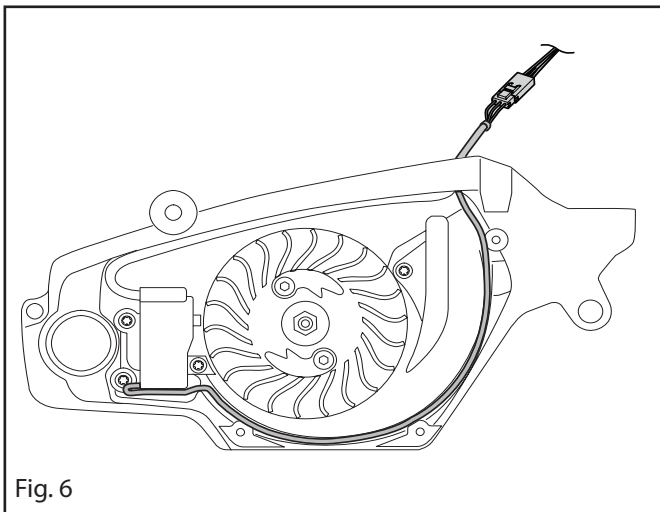

Fig. 6
4. Grease the starter pulley bearing and spring, and fit the pulley on the spindle (H). Turn gently backwards and forwards until the spring catches on the stop in the housing. See figure 6.
1. Wind the cord onto the starter pulley and rotate the pulley clockwise until the cord is correctly tensioned. See figure 6.
10. Connect the cable connected to the contact on the Autotune unit. See figure 6.